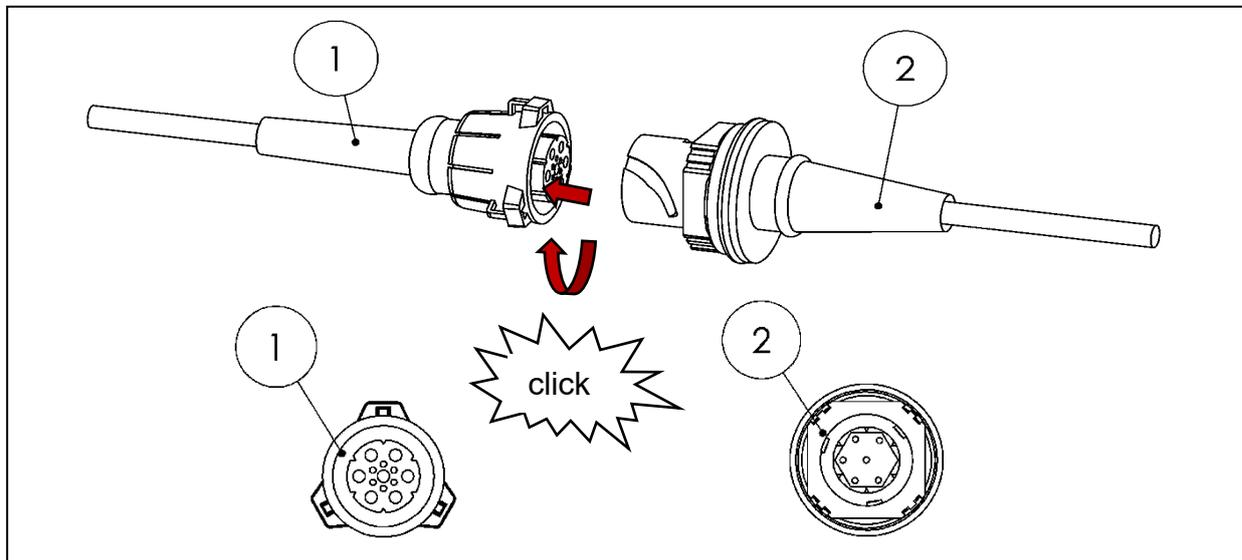

Figure 18
- Route the cabin switch cable from the **accessories kit (Item No. 11)** to the driver's cabin (see Fig. 18).